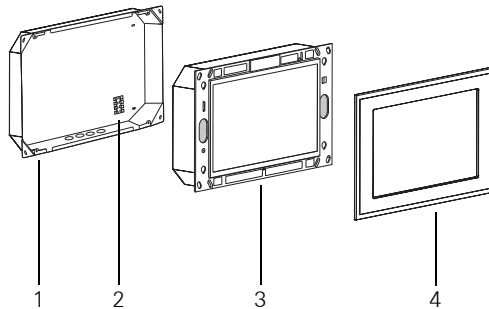
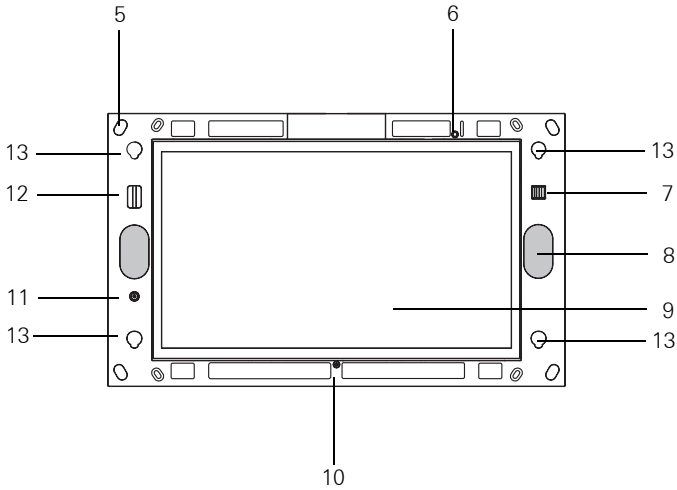

Fig 1: Flush-mounted box, Control 19 Client 2 and design frame
Fig 2: Front of the Control 19 Client 2 without design frame
Specific operating elements only become accessible after the design frame is removed (Fig. 1 and Fig. 2).
The design frame (4) has been removed, the on/off button (11) is accessible (Fig. 1 and Fig. 2).
- Switch on: Press the button (11)